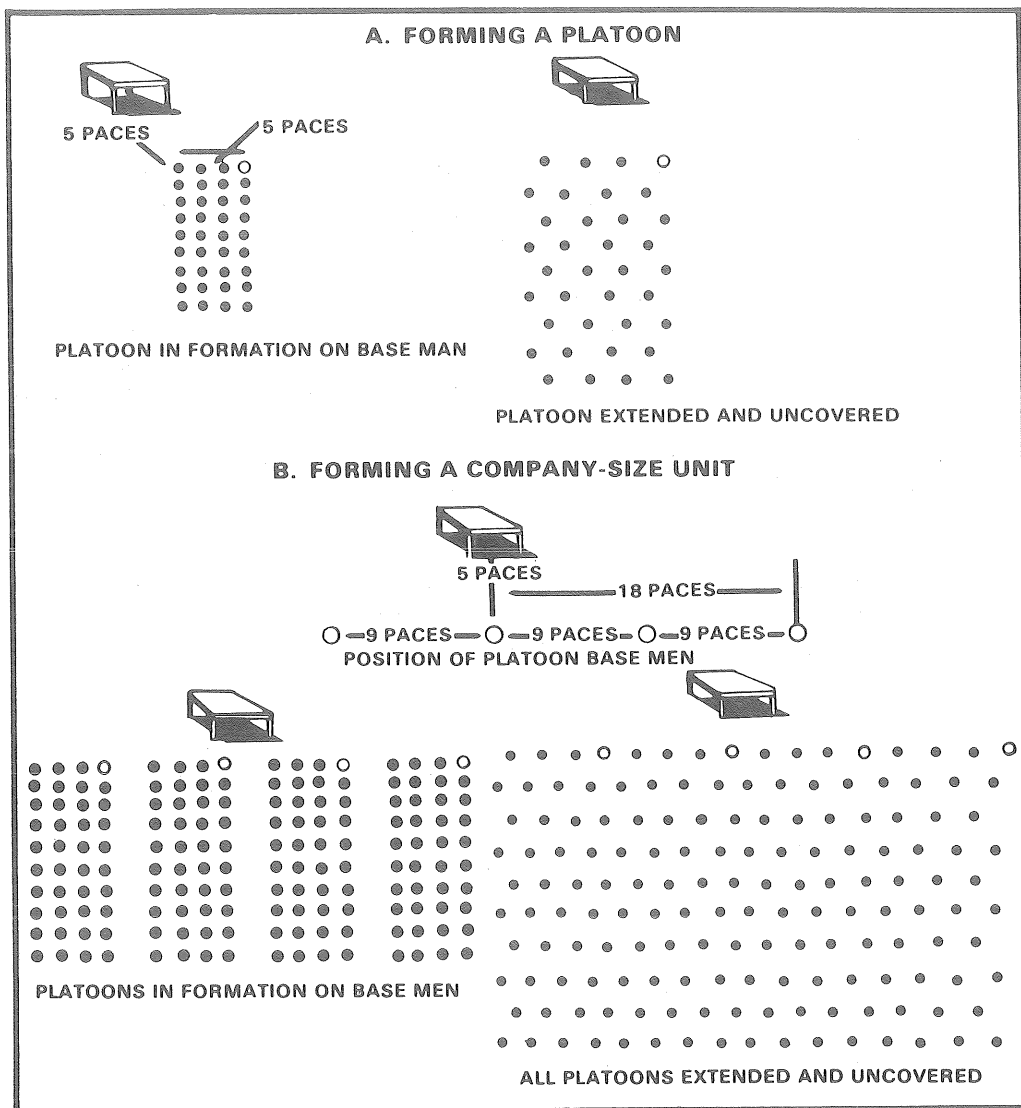

Figure 1. Forming the extended rectangular formation.
- Extended Rectangular Formation (fig 1). The formation used most frequently for carrying on physical training activities is the extended rectangular formation. This formation is the best type to use for large numbers of men because it is easy to control. The following commands are given to form this formation.
NOTE: In figure 1, the baseman is represented by a white circle.